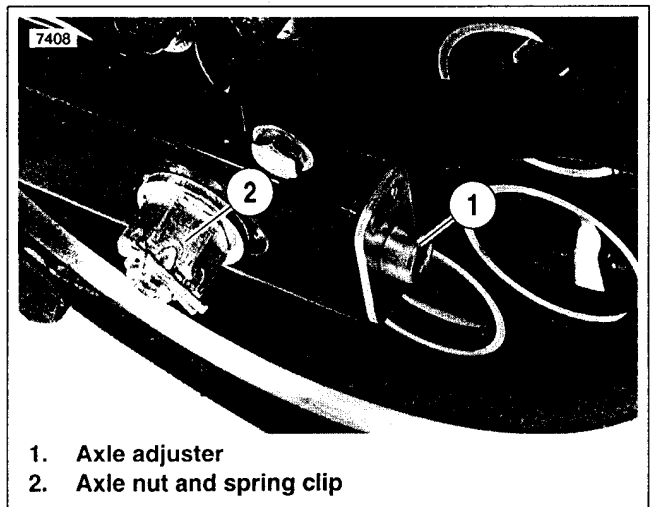

Figure 6-27. Axle Adjusters (Left Side Shown)
3. See Figure 6-27. Loosen rear axle and adjusters so rear wheel can be moved all the way forward. Remove belt from sprocket as you remove sprocket.